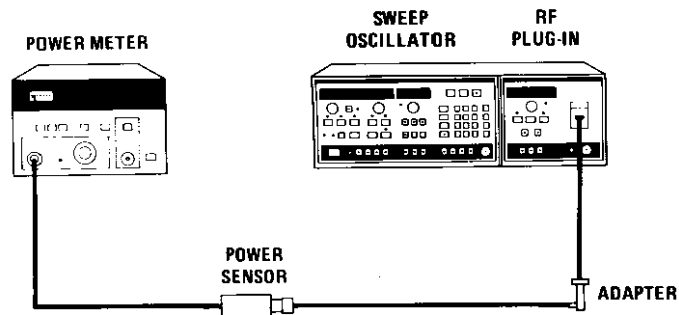

Figure 5-23. Power Calibration Test Setup
1. Connect equipment as shown in Figure 5-23. Ensure HP 8350 [**MOD**] is off. Select HP 8350 [**MAN**] sweep. Manually sweep through the band and select a frequency where the power is approximately in the center of the power variation range. Select [**CW**] at that frequency.